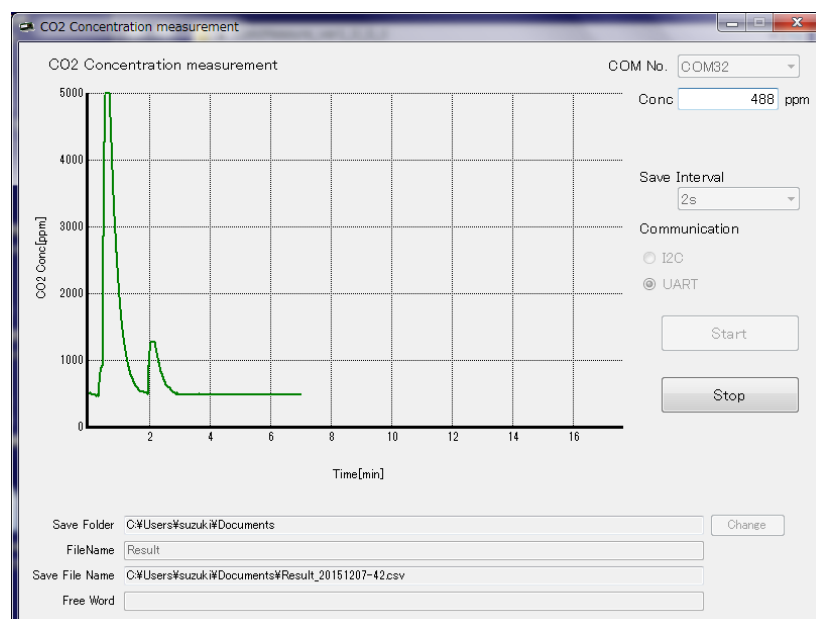

Figure 9 - Measurement Data Display Example
(11) Starting measurement
- The screen displays data from the most recent 17 minutes of measurement data for a measurement session (see Figure 9).